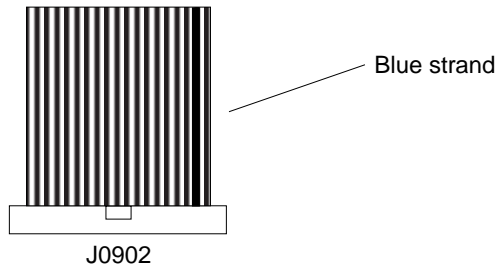

FIGURE 3-25 Connecting the LED Cable to the Main Logic Board
3. Connect the replacement LED cable to the main logic board (FIGURE 3-25).